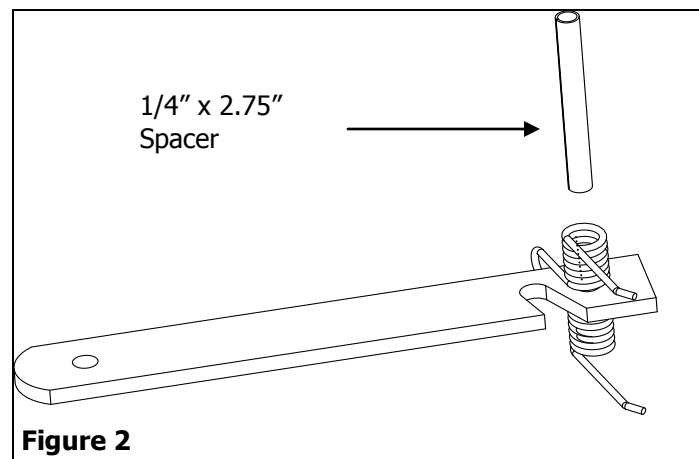

Figure 2
2. Slide the 1/4" x 2.75" Spacer through the Spring and Latch as shown in Figure 2.